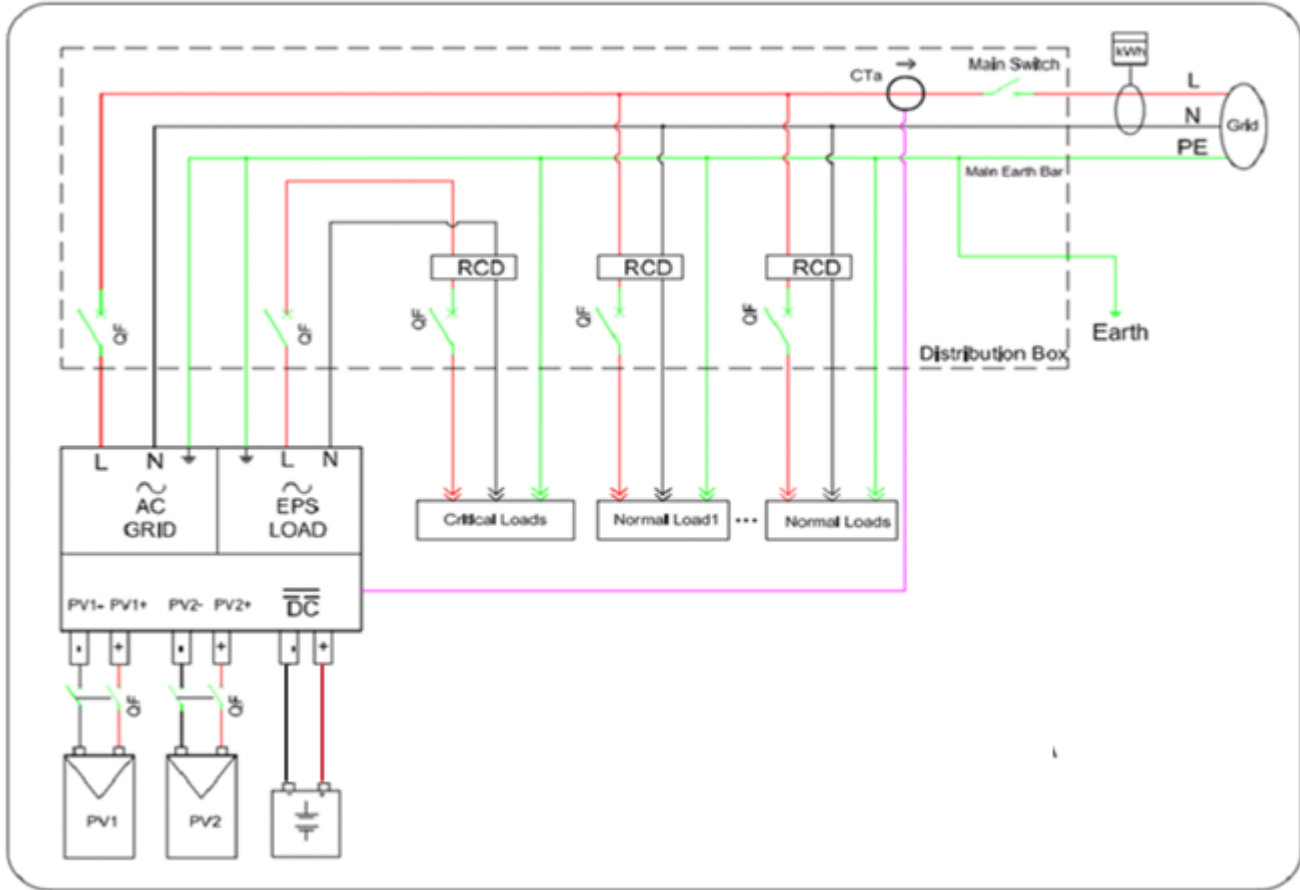

Figure 6 - Electrical Connections
Step 1: Unscrew the 4 screws (A) using a screwdriver (Fig. 6).
Step 2: Remove the waterproof cover (B), loosen the cable gland (C), and then remove the cap (G).
Step 3: Pass the battery cables (F) through the cable gland, then connect the battery wires using the OT terminal (E).